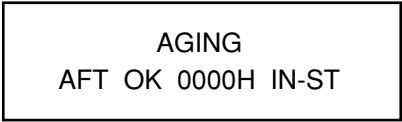

Fig. 1
- Press the “TEST” key on the jig remote controller once to enter to the “Aging mode” (Refer Fig. 1).
1. Enter to the “Aging Mode” by pressing the “TEST” key on the remote controller (Refer to Fig. 1).